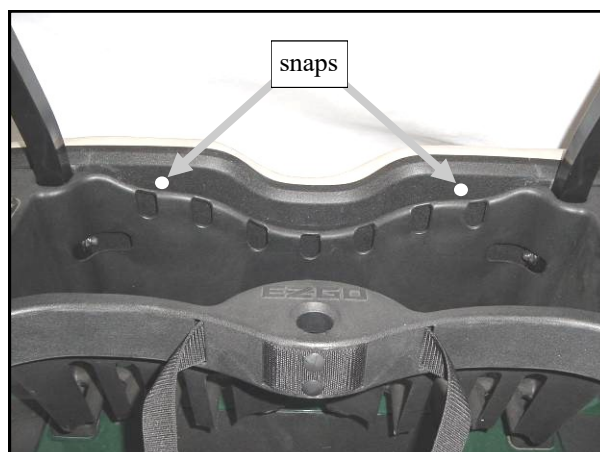

Fig. 9.1 (view taken from rear of vehicle)
9.1 Per fig. 9.1, install two more self-tapping snaps into the back side of the plastic seat as follows: 1/2" down from the crest (corner) and 14" center to center (7" left and 7" right of center). Note: the bright, white circles represent the snaps for clarity in the photo. Note: do not over-tighten. Over-tightening may strip the plastic threads. Note: extra snaps have been provided. Discard any extras.